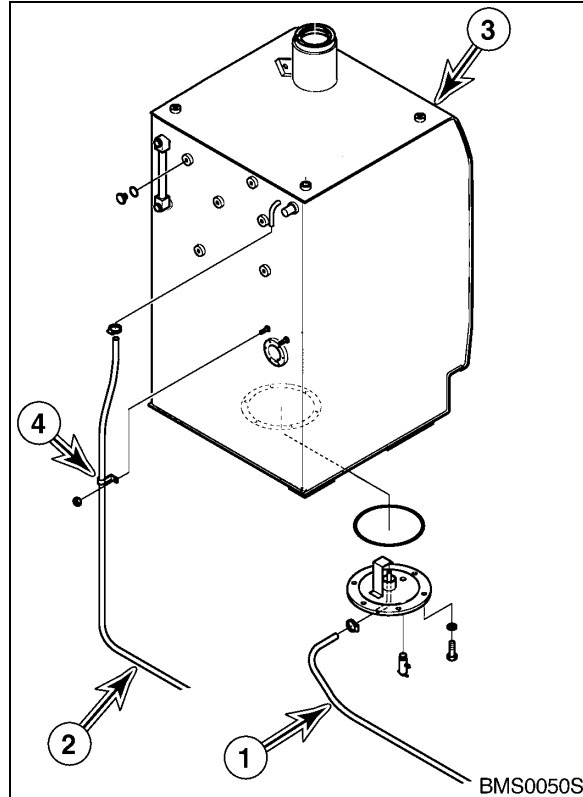

Figure 7
14. Tag and disconnect fuel supply line (1, Figure 7) and fuel return line (2) from Fuel tank (3) and carefully drain remaining fuel from the lines.
15. Remove clamp (4, Figure 7) holding fuel return line (2) to tank (3).